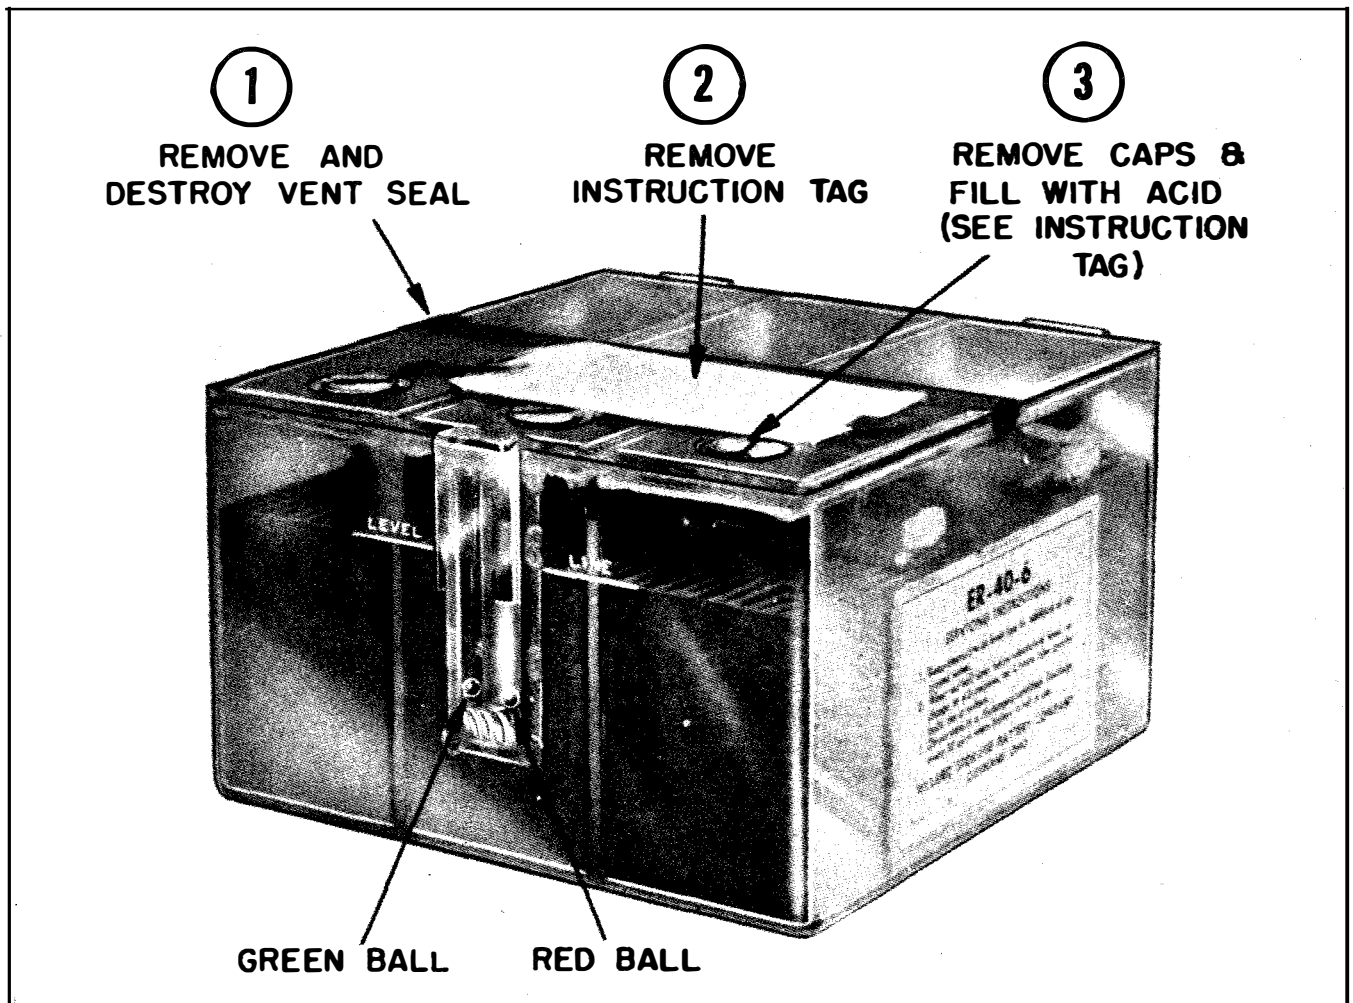

Figure 3-2.—Equipment Battery as Shipped from Factory.
After unpacking the equipment it will be necessary to add electrolyte to each of the three batteries and to give each a booster charge. For instructions on removing and replacing the batteries in their storage compartments within the Transmitter-Receiver and Auxiliary Battery Pack see Section 5, paragraph 3*d*. Instructions for initial filling and charging are given below. These instructions will also be found on a tag affixed to the top of each new battery (see figure 3-2).
(1) Remove and destroy the seal over the vent openings, remove the instruction tag taped across the red filler plug, and remove the plugs from the top of each cell (see figure 3-2).
(2) Fill each cell to approximately 1/8 in. above the level line (figure 3-2) with sulphuric acid of 1.280 specific gravity at 26.7°C (80°F).
(3) Allow the battery to stand for one to four hours. If the electrolyte is low at the end of this period, restore it to the level line by adding acid.